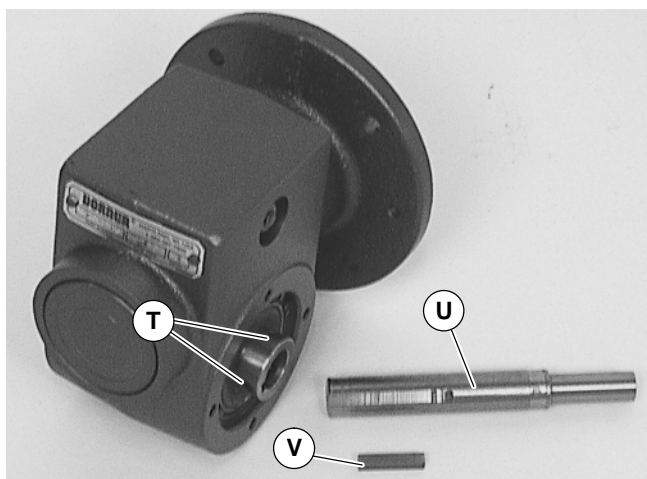

Figure 14
10. Insert the new shaft with adhesive (U Figure 14) and key (V) into new gear reducer. Tighten set screws to 3 Nm.